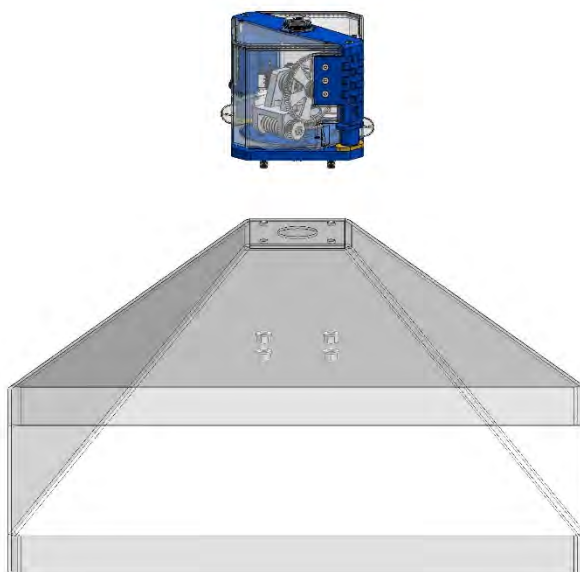

Figure 10
4. Place the Twister on the upper end of the hood making sure that the grains present on the base of the Twister are inserted into the appropriate holes. Figure 10;